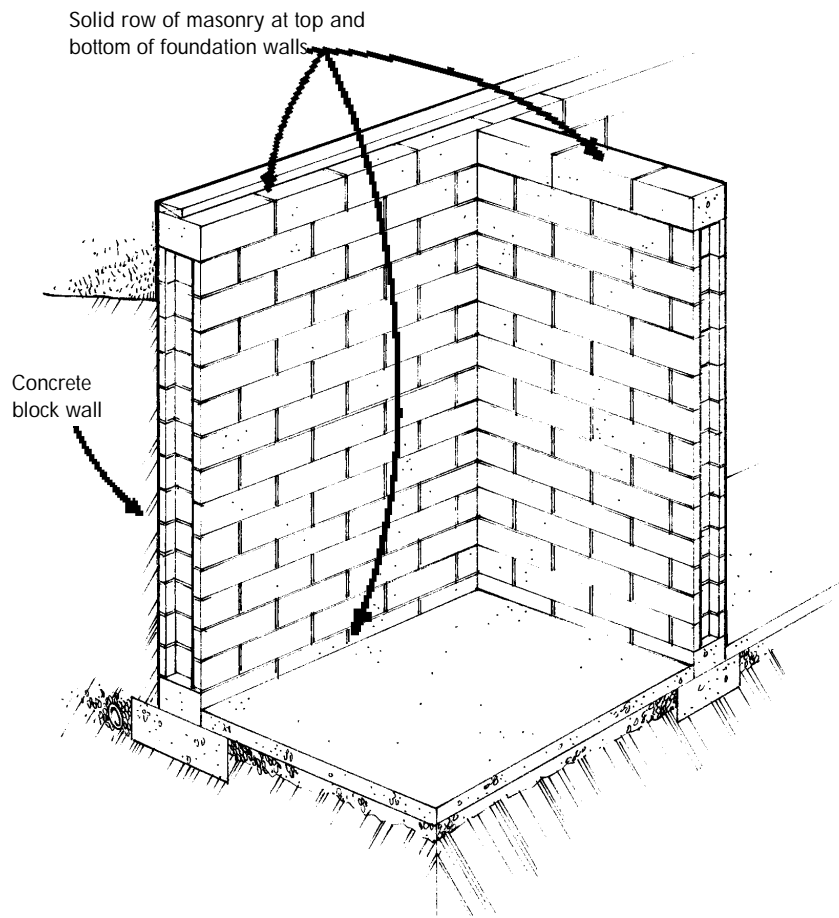

Figure 19: Eliminating voids at the top and bottom of new concrete block foundation walls
- Use a solid course of masonry units at the top and bottom of concrete block foundation walls (see **figure 19**). If regular concrete blocks with voids are used instead, a major entry route for radon may be created.